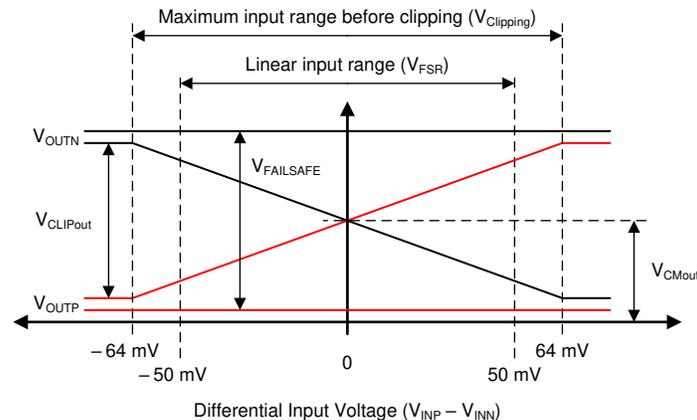

图 7-2. Output Behavior of the AMC3302
The AMC3302 offers a differential analog output comprised of the OOUTP and OOUTN pins. For differential input voltages ($V_{INP} - V_{INN}$) in the range from -50 mV to 50 mV, the device provides a linear response with a nominal gain of 41. For example, for a differential input voltage of 50 mV, the differential output voltage ($V_{OOUTP} - V_{OOUTN}$) is 2.05 V. At zero input (INP shorted to INN), both pins output the same common-mode output voltage V_{CMout} , as specified in the Electrical Characteristics table. For absolute differential input voltages greater than 50 mV but less than 64 mV, the differential output voltage continues to increase in magnitude but with reduced linearity performance. The outputs saturate at a differential output voltage of $V_{CLIPout}$, as shown in Figure 7-2, if the differential input voltage exceeds the $V_{Clipping}$ value.
The AMC3302 provides a failsafe output that simplifies diagnostics on system level. Figure 7-2 shows the failsafe mode, in which the AMC3302 outputs a negative differential output voltage that does not occur under normal operating conditions. The failsafe output is active in two cases:
- The low-side does not receive data from the high-side (for example, because of a loss of power on the high side). In this case, the amplifier outputs are driven to the V_{FAILSAFE} value, see 图 7-2.
- The high-side DC/DC output voltage (DCDC_OUT) or the high-side LDO output voltage (HLDO_OUT) drop below their respective undervoltage detection thresholds (brown-out). In this case, the low-side may still receive data from the high-side but the data may not be valid. The amplifier outputs are driven to V_{FAILSAFE} value, see 图 7-2.